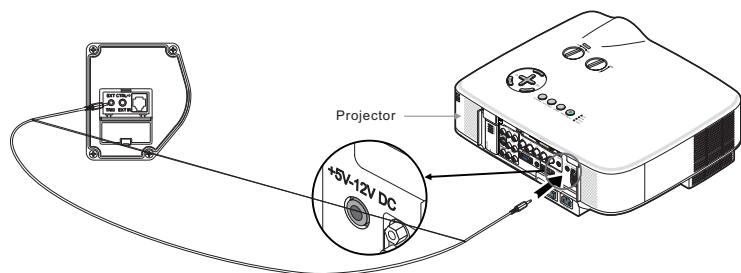

Figure 22
1. Insert one end of the trigger wire into the trigger jack located on the left side of the screen casing's end cap labeled "TRIG" . (figure 22). Insert the other end into the 12V output.